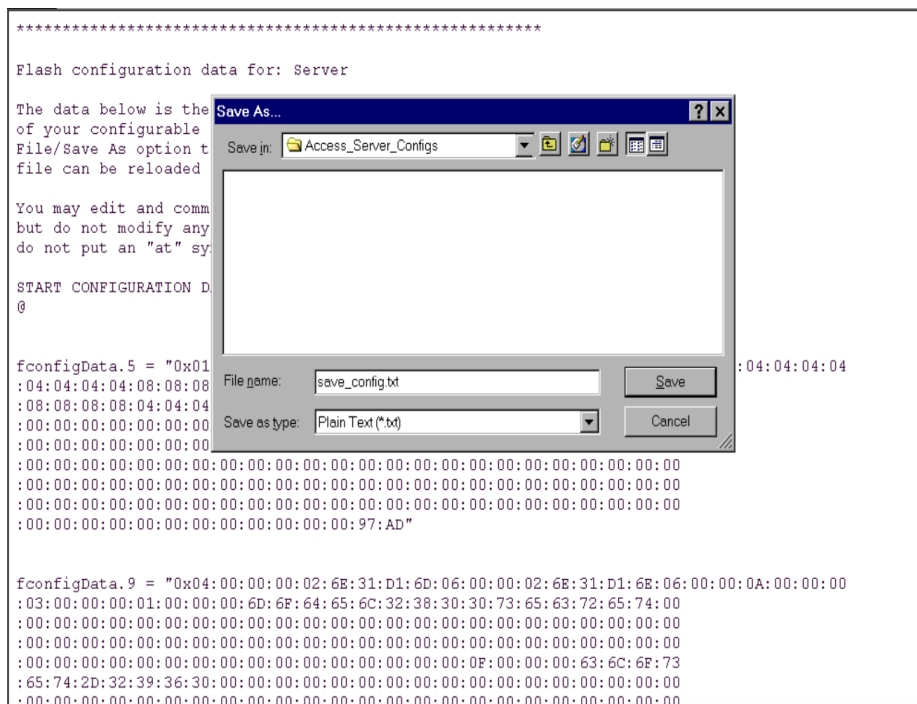

Figure 41. Saving the access server flash memory configuration data as a text file
- To save the displayed data as a text file, select the **Save** option on your browser (see figure 41). For example, under Netscape, select **File > Save As**. A dialog box will display enabling you to save the contents of the export parameters to a text file. Select the location where you want the file stored, type a file name, and click **Save**.